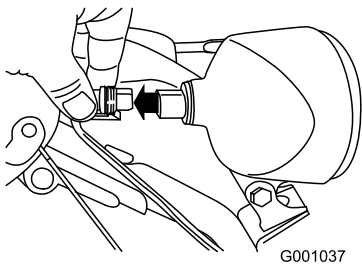

Figure 45
1. Remove the wire connector from the back of the headlight (Figure 45).